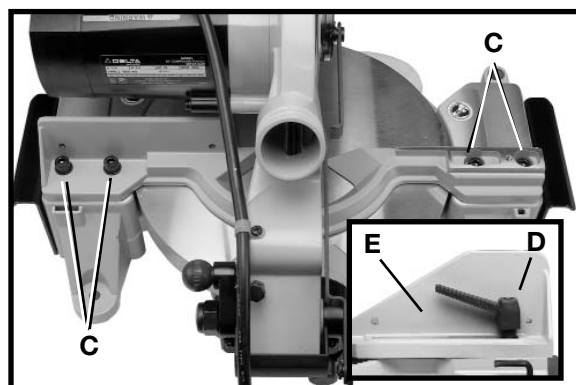

Fig. 21
3. To adjust, loosen the four screws (C) Fig. 21, and adjust fence 90 degrees to the blade. **NOTE:** Two of the screws are located under the sliding fence. Remove lock knob (D) Fig. 21 and sliding fence (E) to gain access to the screws.
4. Tighten the four screws (C) Fig. 21.